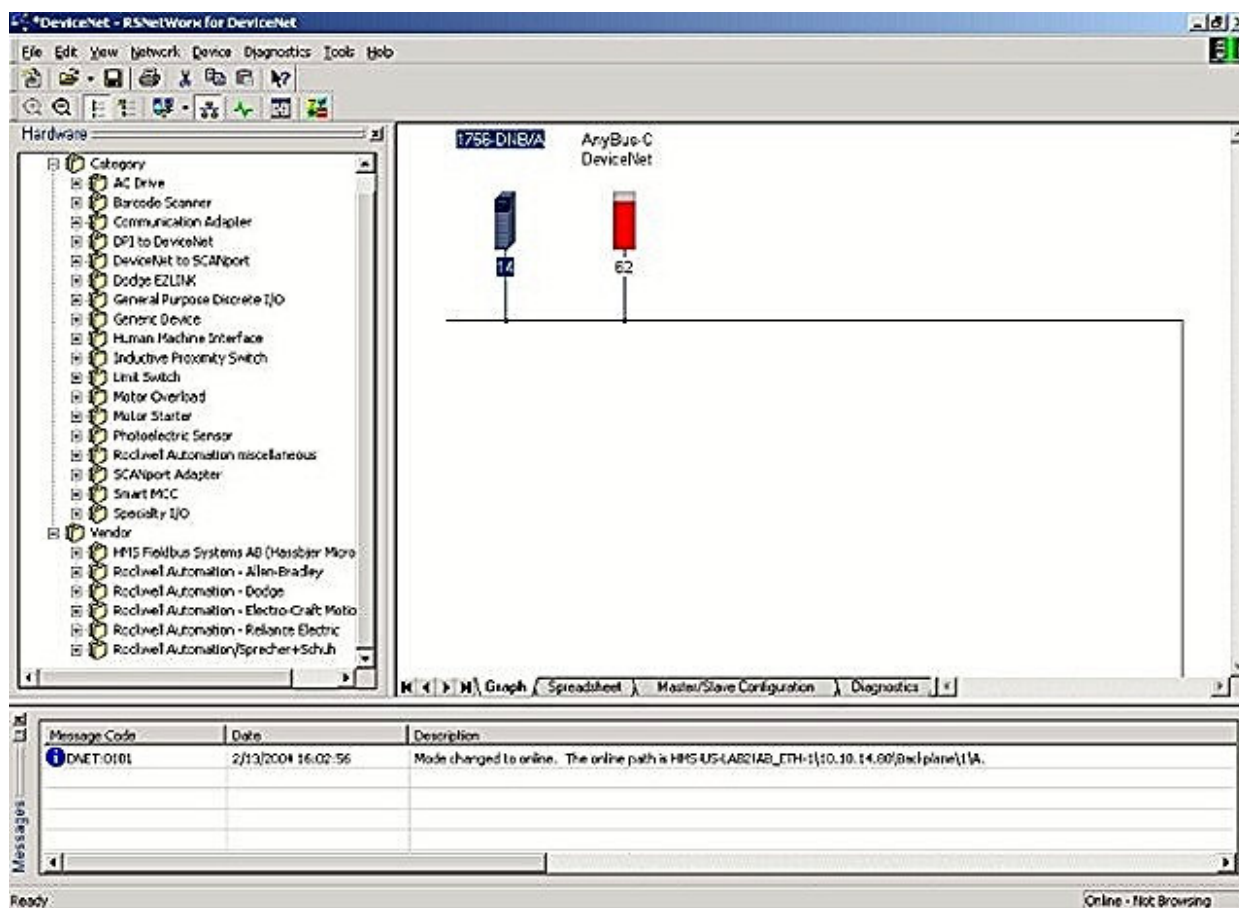

Figure 1
2. The next step is to scan the network for any attached nodes that can then be added to the Scanner's scanlist. From the Network menu select Online. This will scan the entire network at the Baud Rate set up in the scanner and find any attached nodes. You should end up with a diagram of all devices as indicated in Figure 1.